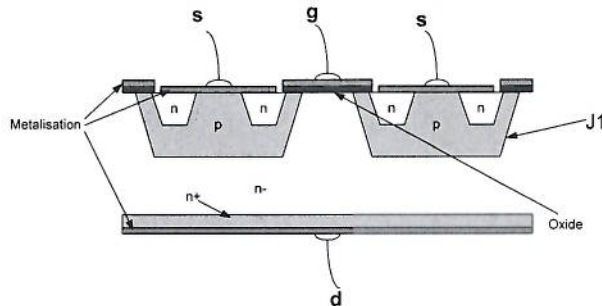
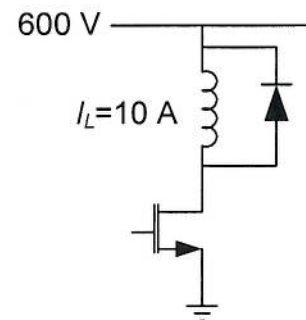

Figure 4.1 Cross section through power MOSFET
Figure 4.2 Diode clamped inductive load circuit
4. Figure 4.1 shows a cross section through a double-diffused power MOSFET (left) and a MOSFET switching a diode clamped inductive load (right).
- b) With reference to Figure 4.1 and using an equivalent circuit diagram of a power MOSFET, explain why the rate of rise of the drain-source voltage is limited when the device turns off.
- c) The MOSFET used in the circuit of Figure 4.2 has an intrinsic dv/dt limit at turn-off of 20 V/ns due to the device internal structure. However, in order to comply with EMC requirements, it is necessary to reduce the value of dv/dt to 10 V/ns. Design a suitable turn-off snubber circuit applied to Figure 4.2 in order to limit dv/dt to 10 V/ns. [5]
- d) A designer is considering changing the MOSFET used in the circuit of Figure 4.2. In the proposed replacement device, the per-cell capacitance of junction J1 (Figure 4.1) is 10 pF and the equivalent resistance of the p diffusion between the source metallisation and J1 is 10 Ω . In order to comply with the maximum dv/dt limit of 10 V/ns, does this device require a snubber?